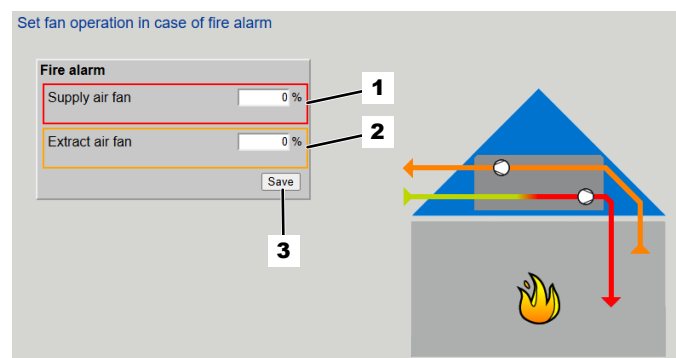

Fig. 46: Setting the fans for the event of a fire alarm
- Set the power for the supply air fan ( Fig. 46 /1).
- Set the power for the extract air fan ( Fig. 46 /2).
- Click on 'Save' ( Fig. 46 /3).